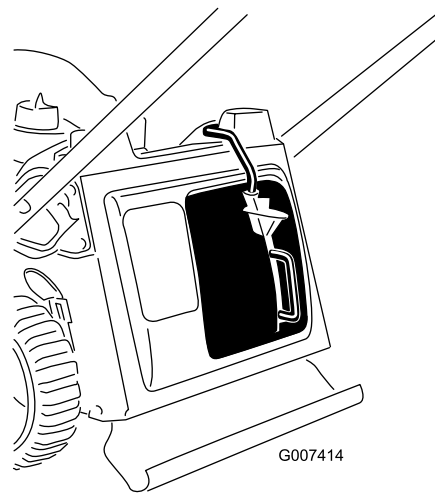

Figure 11
3. Release the button on the lever and ensure that the top of the lever lies fully in the switch channel (Figure 11). If the top of the lever is not in the switch channel, your machine will not start.